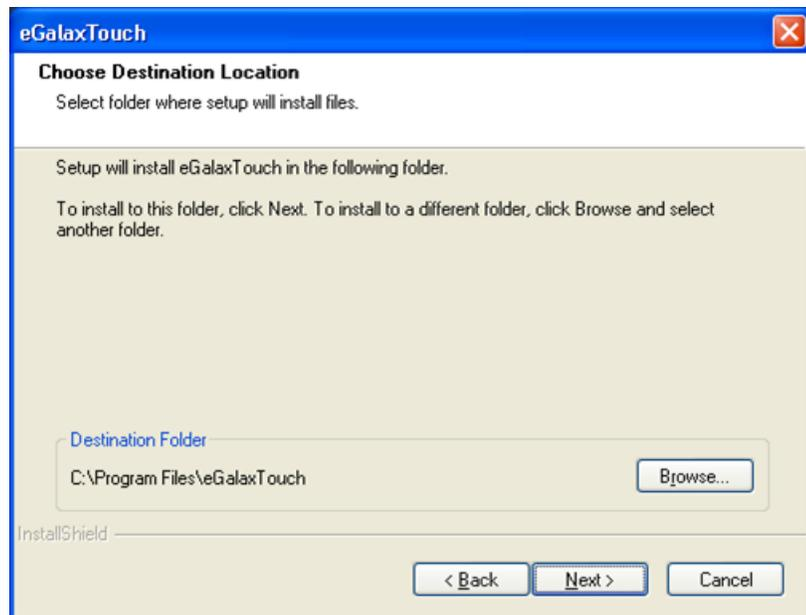

Figure 3-8 Choose Destination Location Screen
13. Select the destination where the eGalax software files will be sent and click **Next** (Figure 3-8).